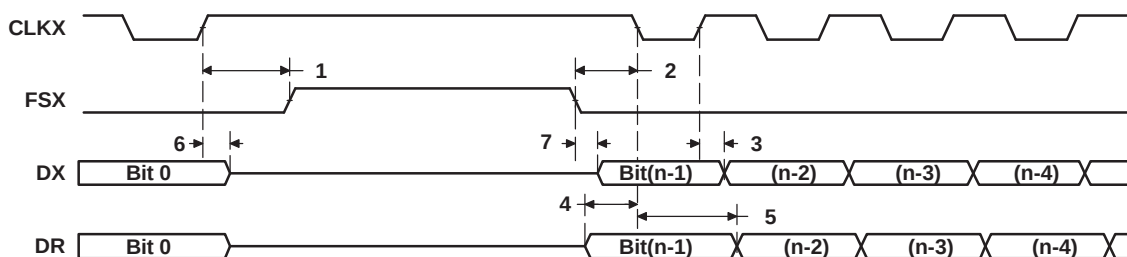

**Figure 6-34. McBSP Timing as SPI Master or Slave: CLKSTP = 11b, CLKXP = 1**
**(see Figure 6-34)**
Master or Slave: CLKSTP = 11b, CLKXP = 1(1)(2) (see Figure 6-34)